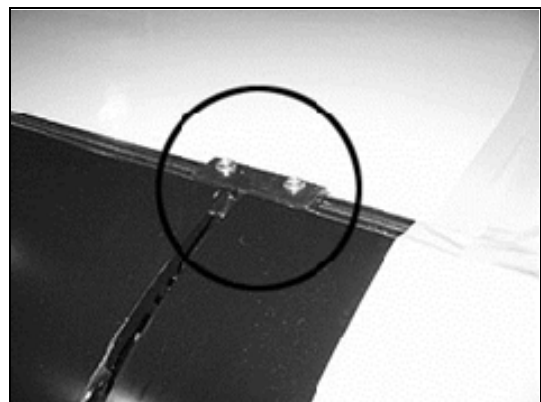

FIGURE 1: STOPPER BLOCK
2. Remove the stopper blocks located at the top of the broken window if applicable (FIGURE 1). There may be a stopper block on the R.H. side as well as L.H. side of the window. These stopper blocks are found at the top of each emergency exit windows.
15. If applicable, reinstall the stopper blocks at their original location (FIGURE 1).